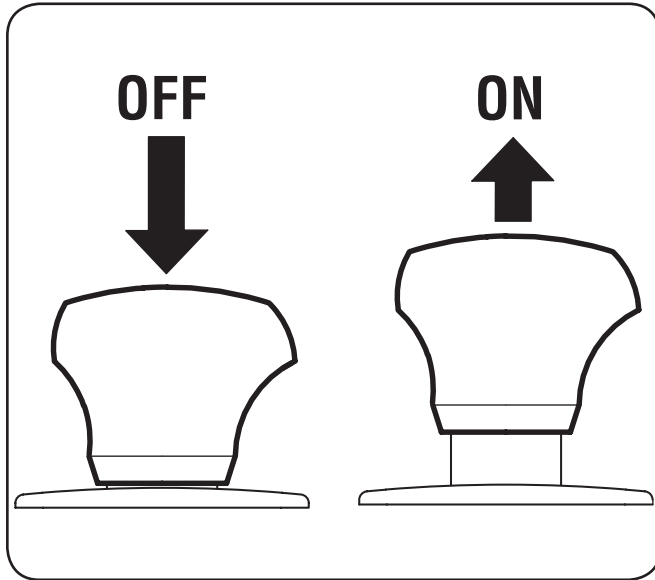

Figure 5-1
2. Pull the PTO/Blade Engage knob outward into the engaged (ON) position. See Figure 5-1.